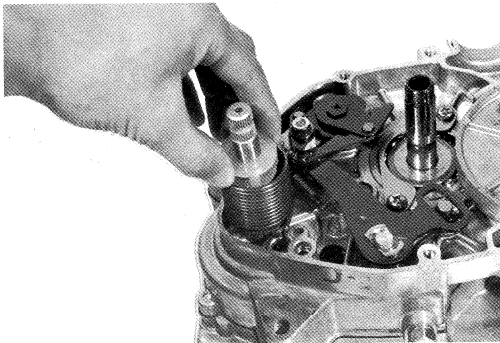

Fig. 5-4-17
18. Pry up and remove the kick starter shaft return spring guide with a plain driver. Next tap the spring out of the kick starter shaft hole with the handle of a hammer. (Fig. 5-4-17, 18)